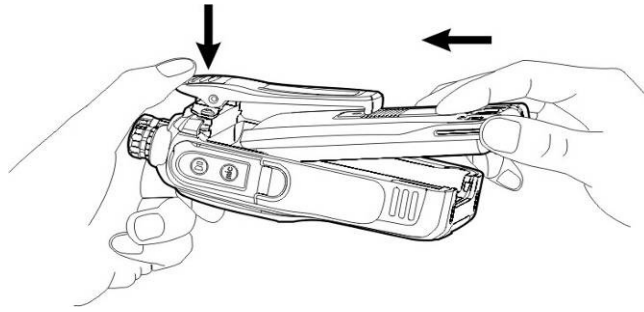

Figure 3
- ① Hold the battery and push it towards the top of the aluminum chassis under the belt clip of the radio. See figure 3.